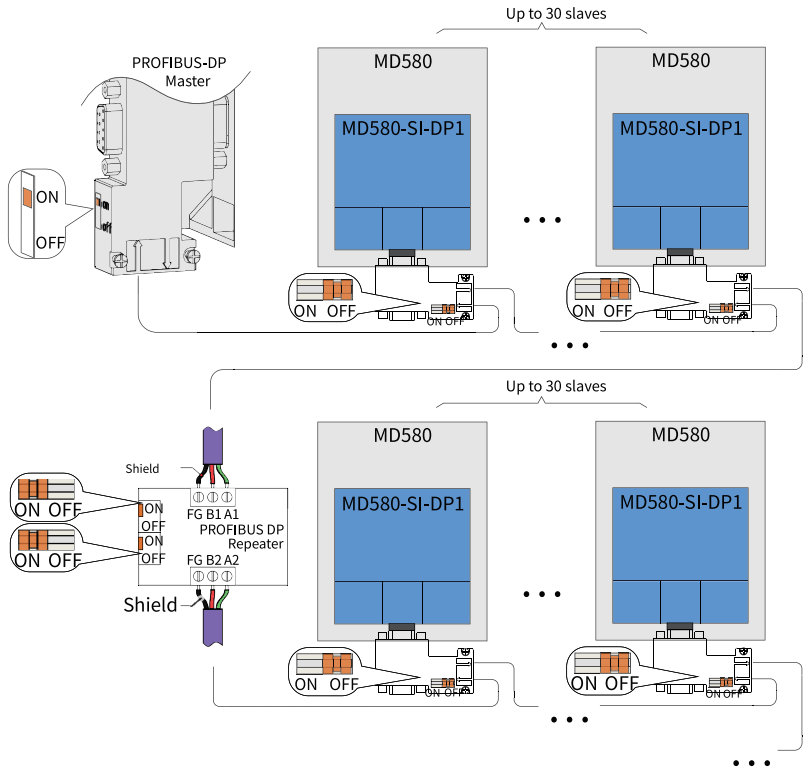

Figure 3-5 Multi-device system connection with a repeater
- For multi-device system connection with a repeater, connect termination resistors at the head and end, and connect the termination resistor of the repeater, as shown in *"Figure 3-5 Multi-device system connection with a repeater"* on page 14.